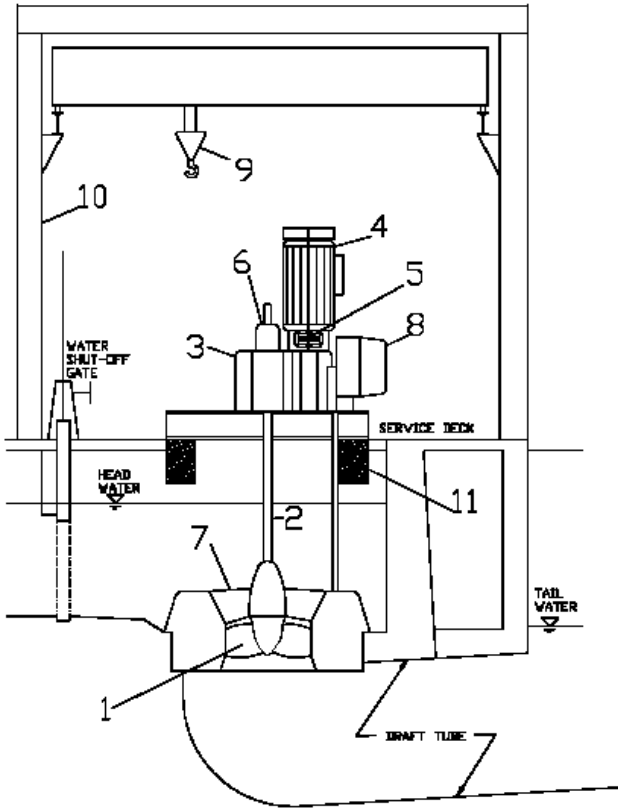
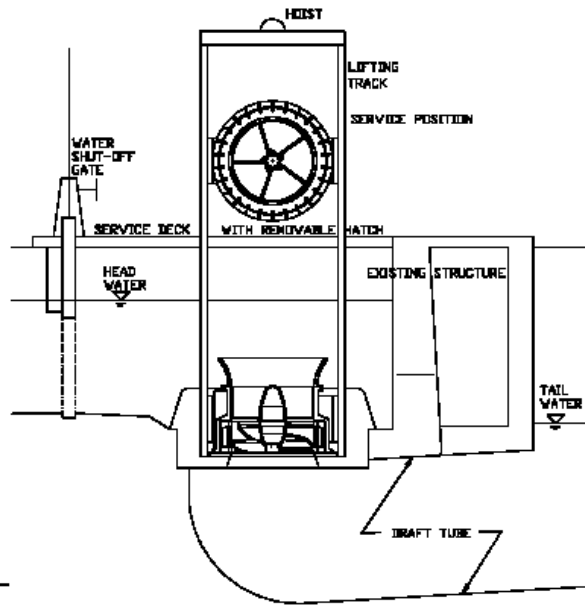

FIG. 3 Conventional modern generator (Andritz)
FIG.4 ATS turbine/generator same scale
To demonstrate the differences between a conventional and ATS approach, the Figs. 3 and 4 illustrate how an ATS turbine/generator can replace a conventional hydro turbine. Fig. 3 shows a 2005 proposal for a vertical axis conventional 350kW Kaplan turbine (GE/Andritz) installation for the Burlington Street Dam in Iowa City, IA. The proposed installation includes mechanical flow controls containing over 70 moving parts. The main components necessary to operate and maintain this conventional turbine are numbered as follows: (1) separate turbine; (2) driveshaft; (3) gear box; (4) separate generator; (5) coupling; (6) runner-pitch hydraulic control; (7) wicket gates; (8) wicket-gate hydraulic control; (9) overhead crane; (10) powerhouse building; and (11) a heavy foundation.
Fig. 4, at the same Fig. 3 drawing scale, shows an equivalent installation with a 350kW ATS-63 turbine/generator. The ATS-63 turbine/generator contains only one moving part (instead of seventy or more moving parts), has one-fifth the weight and volume, can be serviced or replaced and be back into
The example of Fig. 4 shows a vertical orientation, however the unit's orientation is universal and can be at any angle. The ATS-63 can replace older vertical equipment installations as it occupies less space and overall length. Depending on original arrangement it can replace a horizontal application with horizontal or vertical installation.